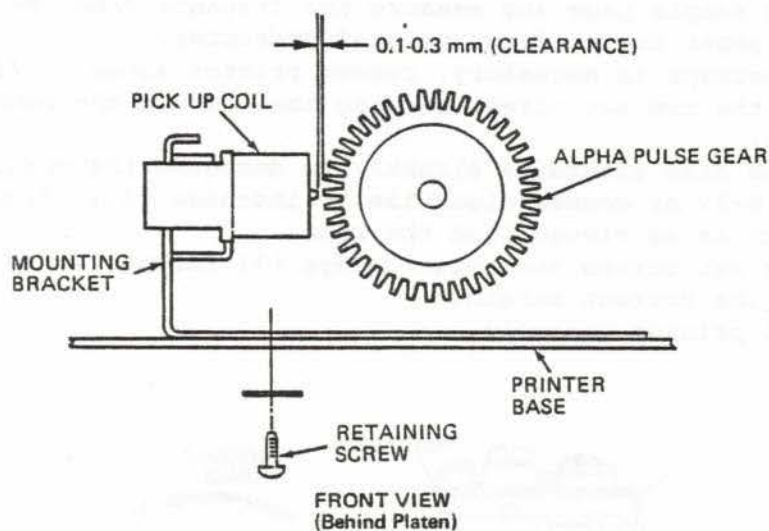

Figure 6-2. "ALPHA" PULSE TIMING ADJUSTMENT
6.3 ALPHA SIGNAL ADJUSTMENT (See Figure 6-2)